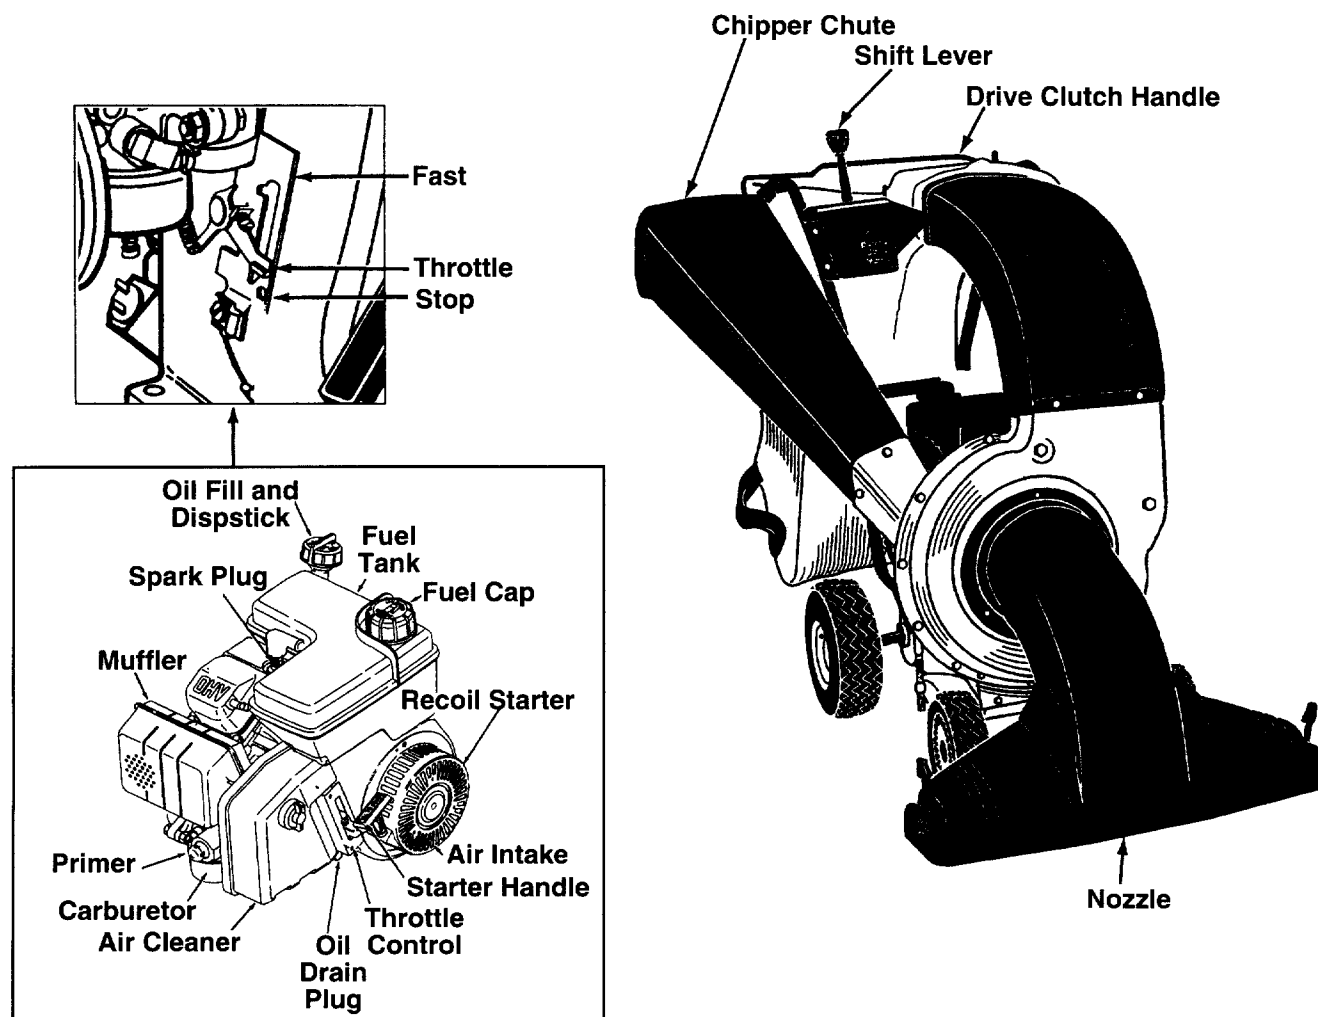

FIGURE 9
OPERATING CONTROLS (See Figure 9)
- Move throttle control lever to STOP position. See figure 9.
- Attach spark plug wire and rubber boot to spark plug if necessary. See figure 9 for location.